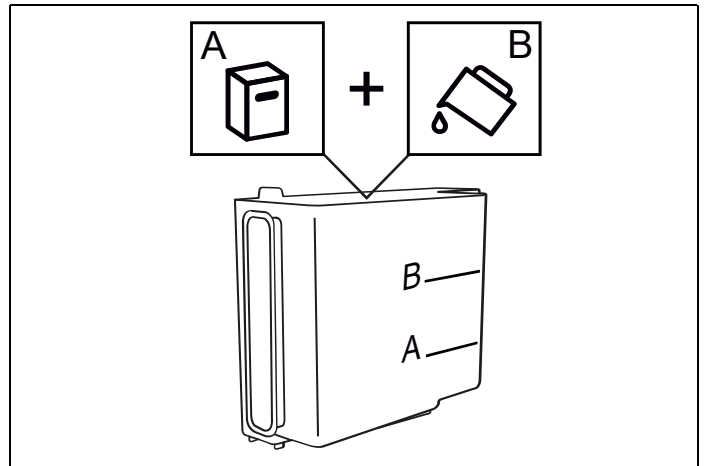

Fig. 56
- **Add descaler (up to level A)** (Fig. 56) ; Pour the de-scaler into the tank up to the level A marked inside the tank (equal to one 100 ml pack); then add water (one litre) up to level B; and put the water tank back in. Press \succ NEXT;